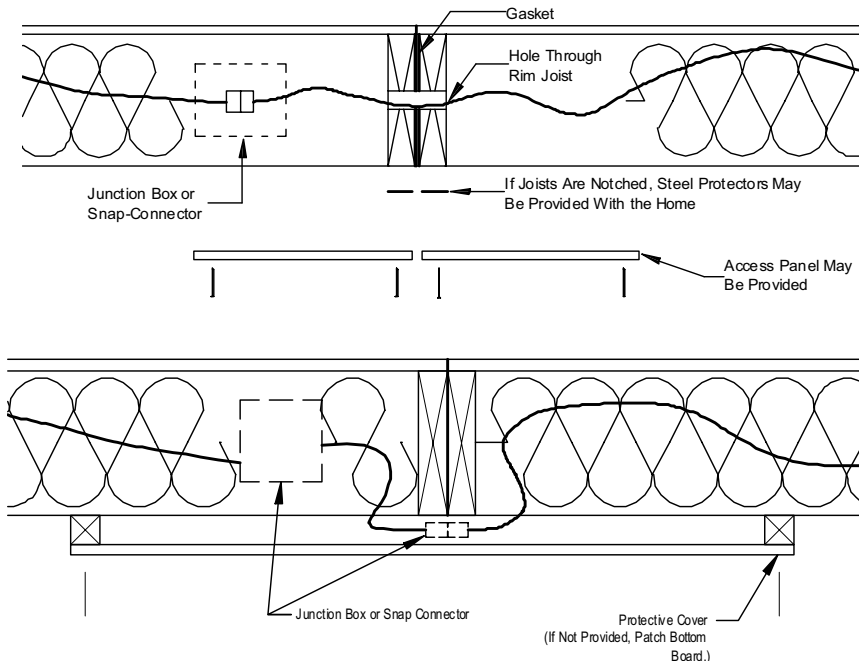

Figure 55. Electrical crossover floor wires with flush access panels
1. **Access wires.** Find the crossover location(s) and remove the access panel(s) if attached. If access panel openings are not provided, cut through bottom board to expose the wiring (**Figure 55**).